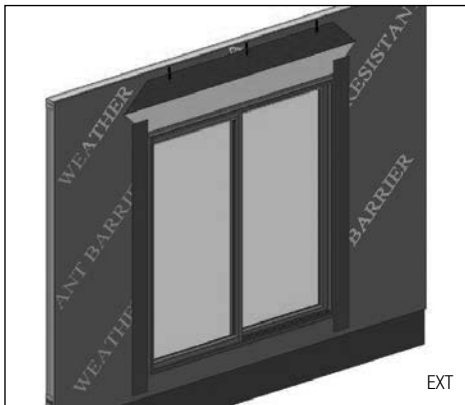

FIG. 15
- Cut and apply side flashing. Side flashing should run from the bottom of the sill flashing to 8" above the rough opening. (Fig. 15)